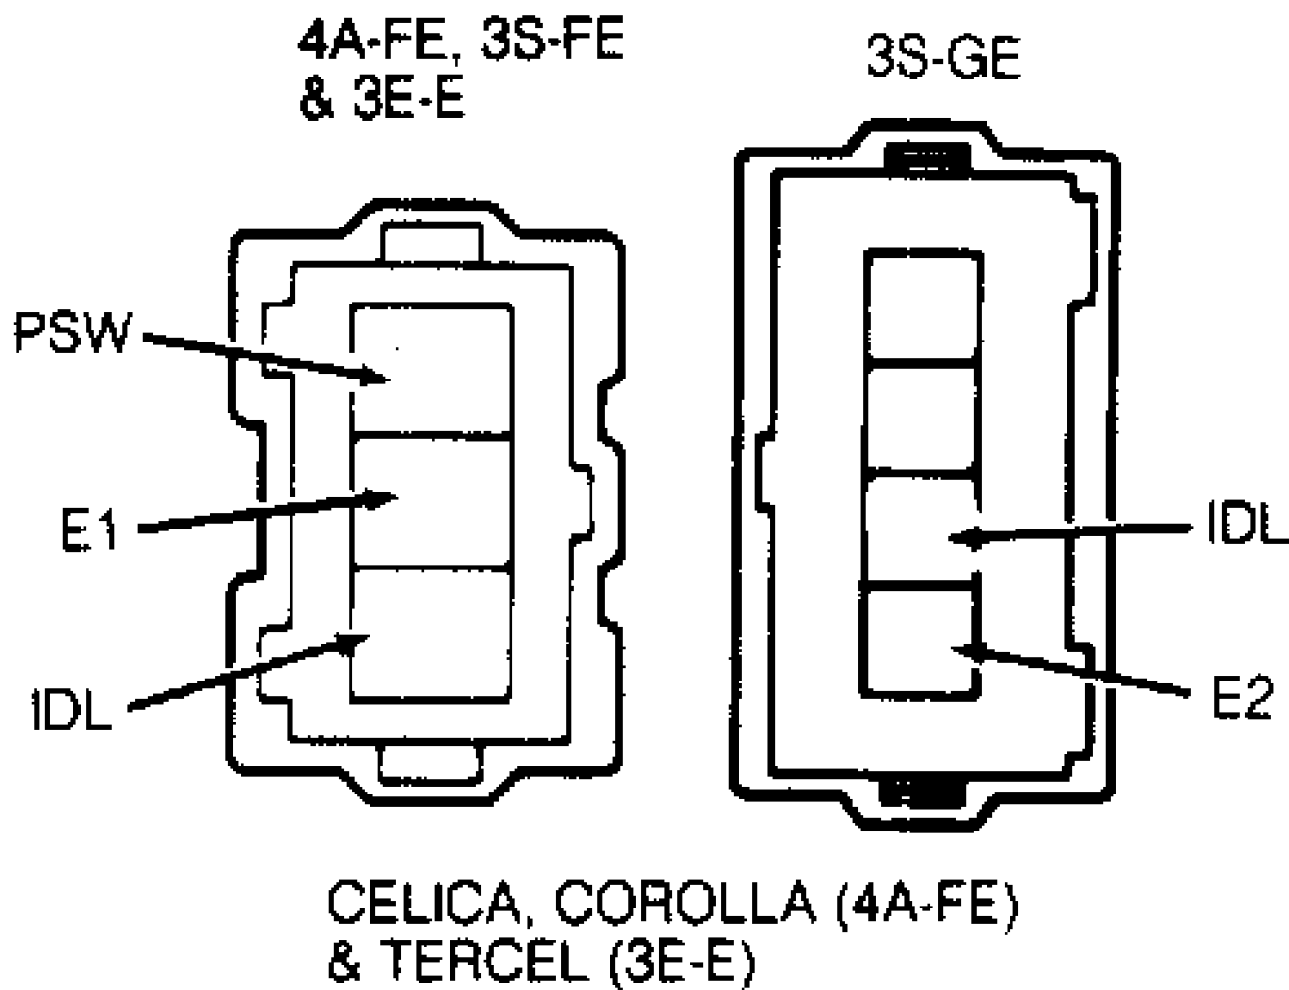

Fig. 73: Terminal Connectors For Testing Fuel-Cut RPM
1) Connect a tachometer to engine (to monitor needle fluctuations). Start engine and warm to operating temperature. Disconnect throttle position sensor connector from throttle position sensor. Short terminals IDL and E1 (or E2) on wire side of connector. See Fig. 73.